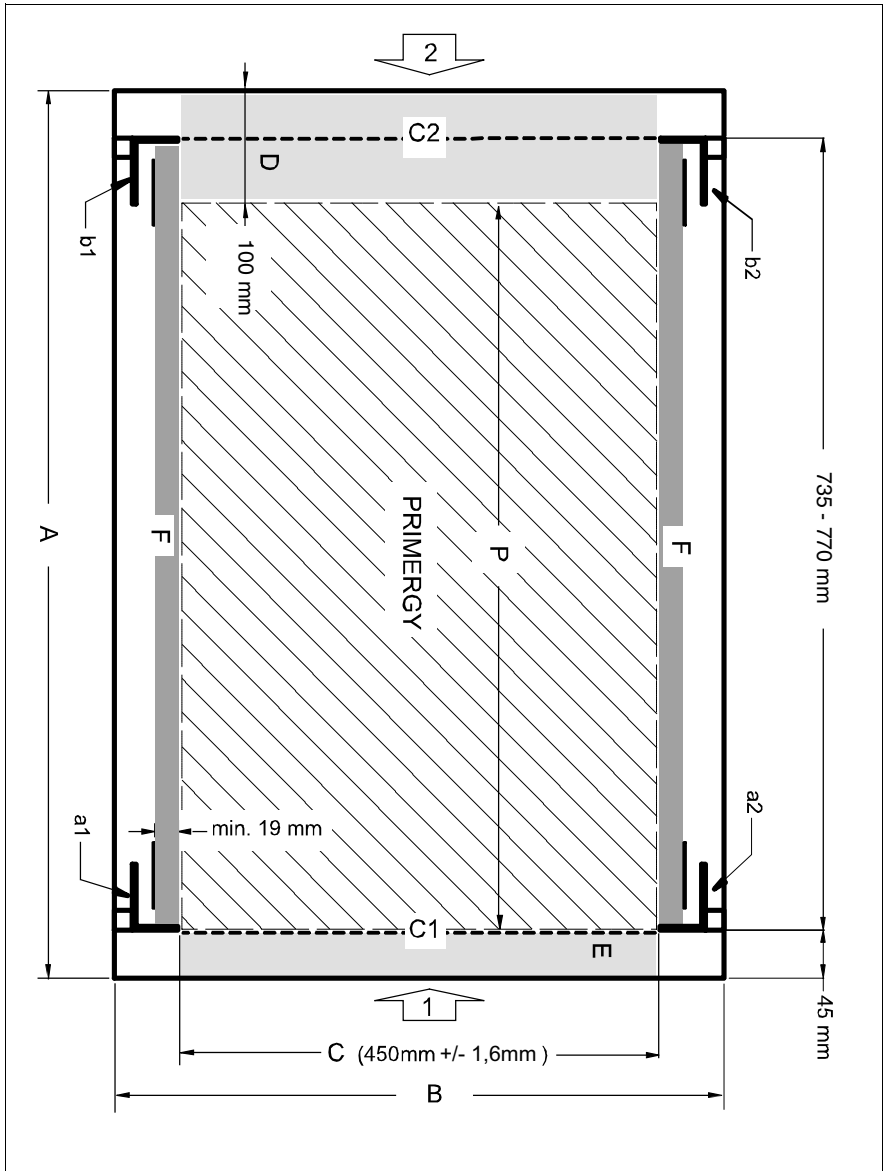

Figure 2: Mechanical requirements
– Installation dimensions (see the dimensions shown in figure 2 on page 45):